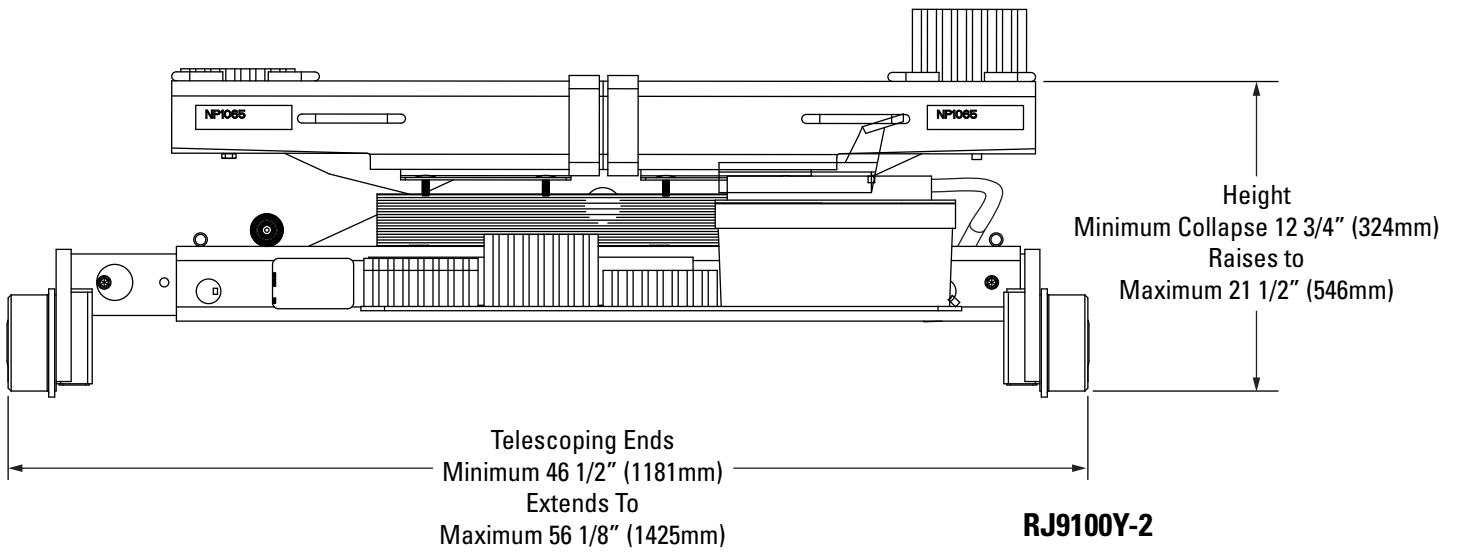

Fig. 4
- D. RJ9100Y-2: The rail engaging wheels shall be adjustable for an inside runway width of 46 1/2" (1181 mm) minimum to a 56 1/8" (1425 mm) maximum Fig. 4.
- E. The rolling jack shall be equipped with three (3) different sized rubber pads 1/2", 1 1/2" and 3".
- F. The rolling jack shall be equipped with two (2) truck adapters, two (2) 3" adapter extensions, and two (2) 5" adapter extensions.
- I. The rolling jack shall be moveable on four (4) heavy duty urethane compression wheels. Actual vehicle load to be transferred to jack end section load bars engaging the roller track assembly.